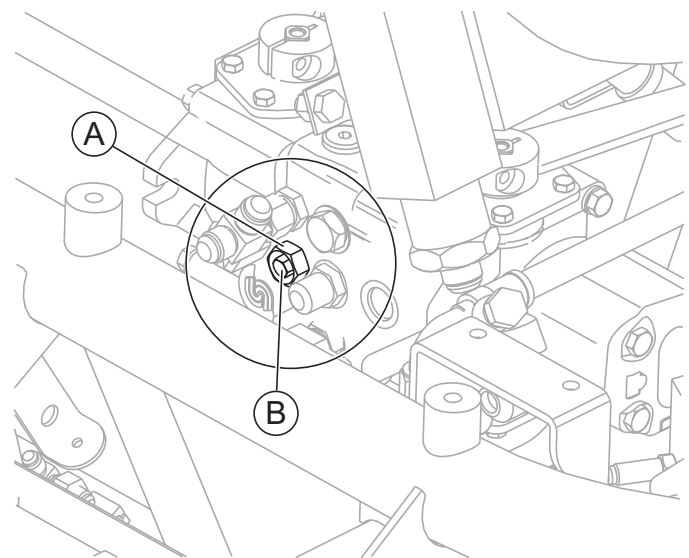

Figure 44. Steering Pressure Adjustment
3. Loosen 1-1/16" jam nut on charge relief valve (Item A, Figure 44).
4. Use a 1/2" socket to adjust the small hex nut within the larger hex jam nut (Item B, Figure 44).